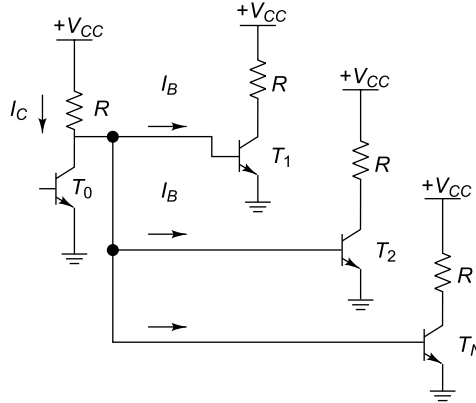

Fig. 6.48 Circuit of Ex. 6.29
6.29 Determine fan-out of transistor T_0 as shown in Fig. 6.48. Consider $V_{CC} = 5\text{ V}$, $R = 20\text{ k}\Omega$, $I_B = 0.1\text{ mA}$ for saturation.